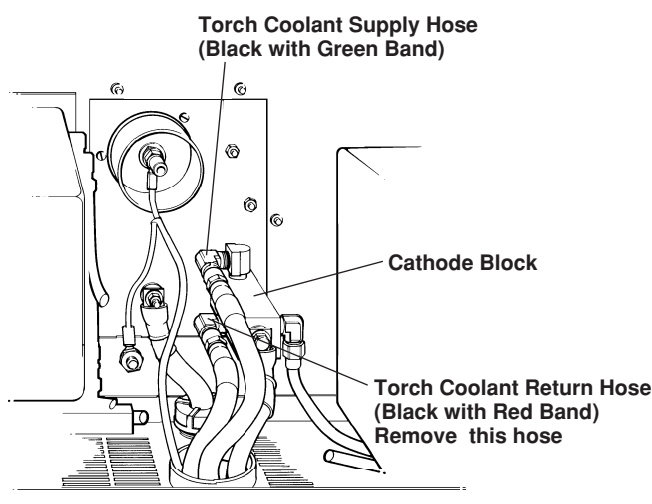

Figure 8-6 Torch Coolant Supply and Return Hoses
2. Locate the two coolant hoses that come off of the cathode block at the rear of the power supply (black hoses: one with a green tape band and one with a red tape band - See Fig. 8-6).
5. Disconnect the torch coolant supply hose (black hose with the green band) from the rear of the power supply. See Fig. 8-6.